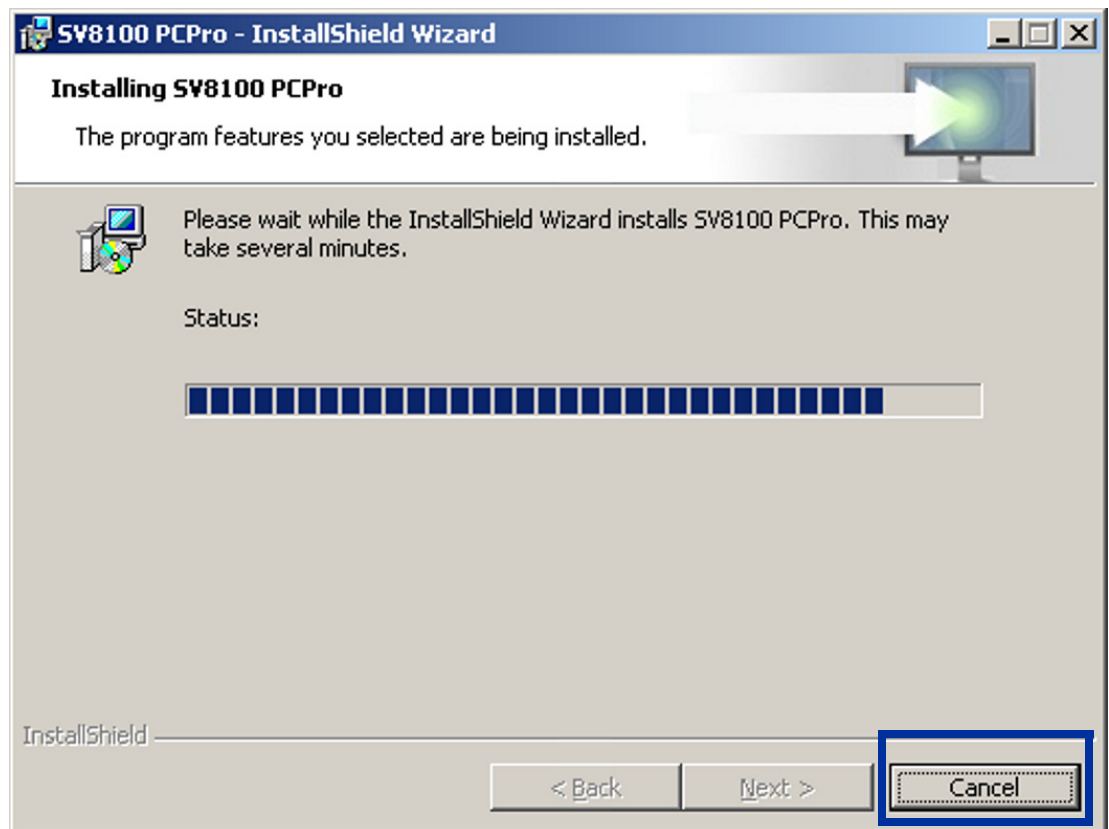

Figure 2-5 InstallShield Wizard Installation Progress
5. The program installs. Figure 2-5 InstallShield Wizard Installation Progress shows the screen you will see that indicates the progress of the installation.